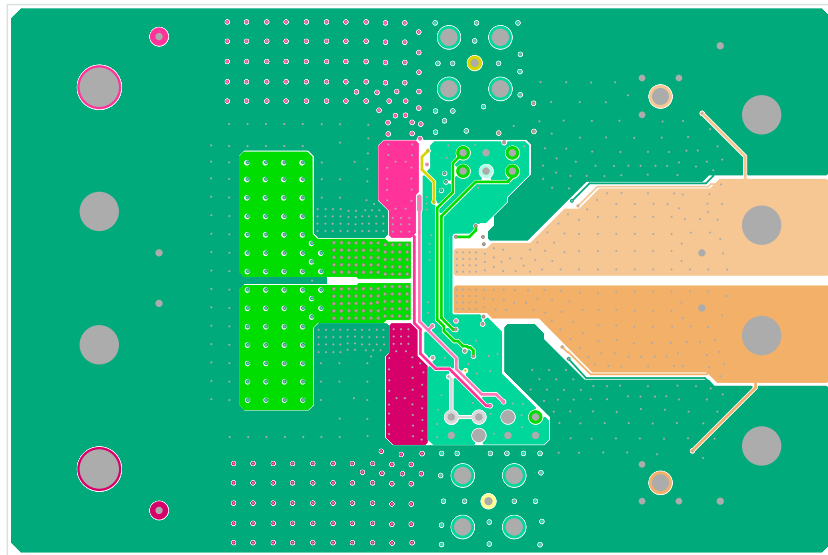

Figure 5. Layer 2
- The Phase 1 and Phase 2 pads are switching nodes that generate switching noise. Keep these pads under the module. For noise-sensitive applications, Renesas recommends keeping phase pads only on the top and inner layers of the PCB; do not place phase pads exposed to the outside on the bottom layer of the PCB. To improve the thermal performance, the phase pads can be extended in the inner layer, as shown in Phase 1 and Phase 2 pads on layer 2 (Figure 5 on page 9) for this dual 15A evaluation board. Make sure that layer 1 and layer 3 have the GND layers cover the extended areas of the phase pads at layer 2 to avoid noise coupling.